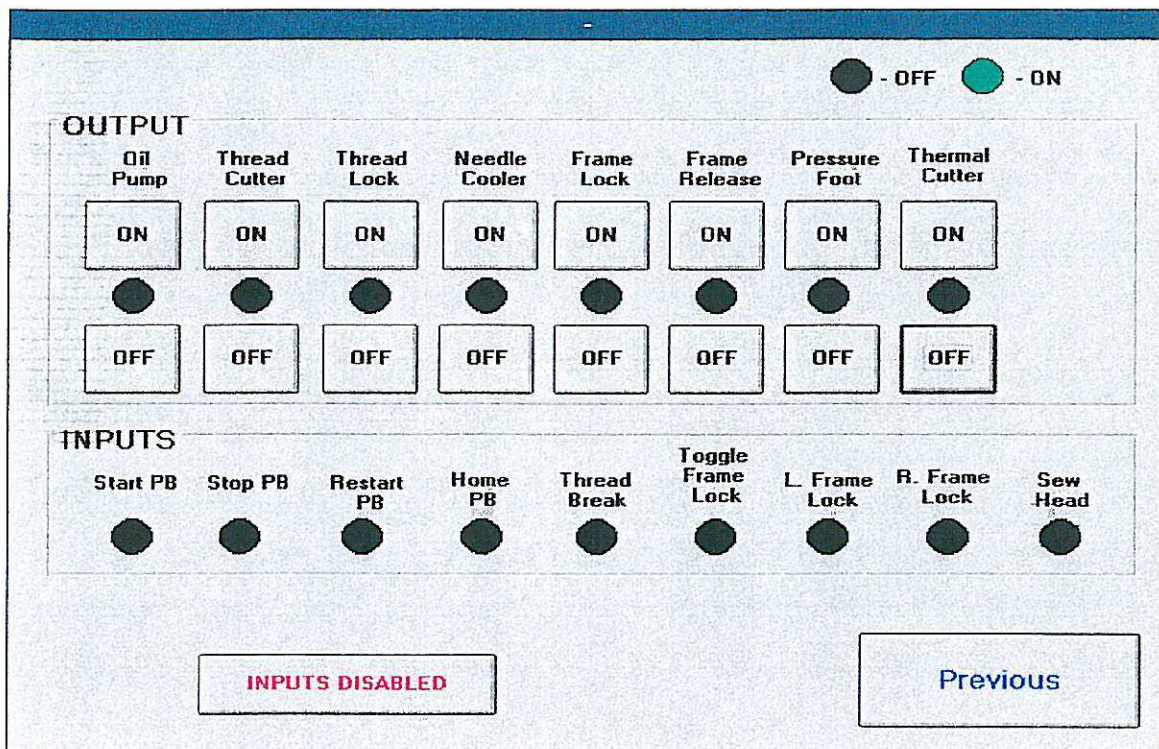

Figure 4.19
A. Press the “Inputs/Outputs” key and an input/output screen will appear. See *Figure 4.19*.